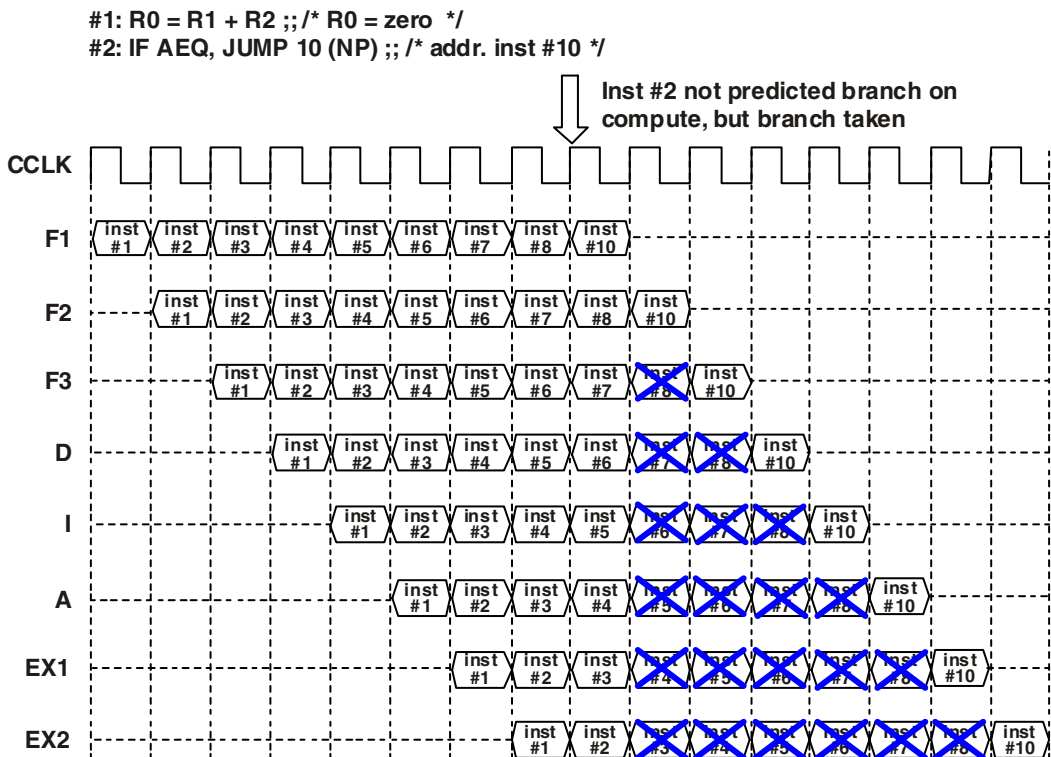

Figure 7-27. Not Predicted (NP) Branch Based on Compute Condition—Branch Taken
Figure 7-27 shows a not predicted (NP) branch that is based on a compute condition. Because the branch is incorrectly predicted as not taken, the pipeline contents are not continuously executable (six pipeline stages voided), and there are six lost cycles (branch cost). Note that the pipeline evaluates the compute condition (AEQ flag set by instruction #1) when the conditional instruction reaches the Execute 2 (EX2) pipeline stage. From this evaluation, the pipeline determines how many pipeline stages to void.